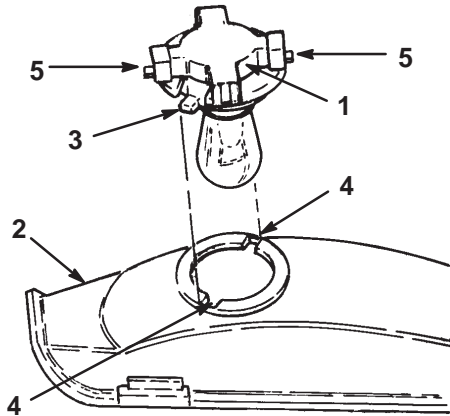

Figure 35
4. Rotate the bulb holder 1/4 turn counterclockwise and remove it from the reflector (Fig. 35).
2. The bulb holder has two tabs (Fig. 35). Align the tabs with the slots in the reflector, insert the bulb holder into the reflector and rotate it 1/4 turn clockwise until it stops.